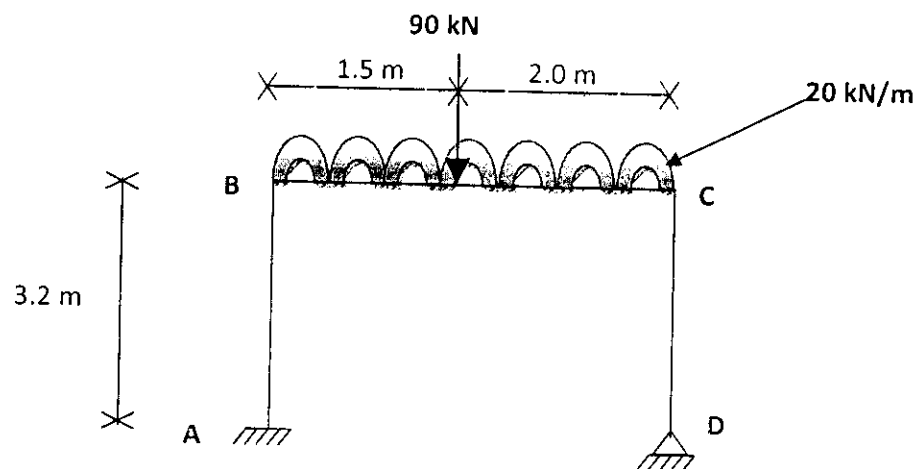

Fig.1: Frame (2D) Problem
- Analyse the frame by **slope-deflection method** and draw the final bending moment diagram of the frame as shown in Fig.1. The size of beam BC is 250 mm X 350 mm and the side of the square columns AB & DC are 300 mm and 250 mm respectively. $E = 2.5 \times 10^4$ MPa for all the members.